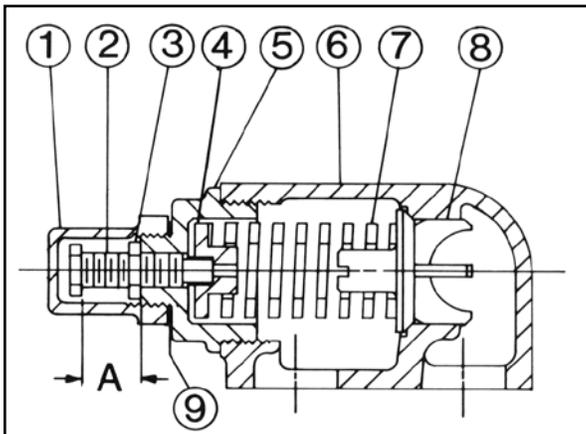

FIGURE 22
2. Measure and record the length of extension of the adjusting screw. Refer to "A" on **Figure 22**.